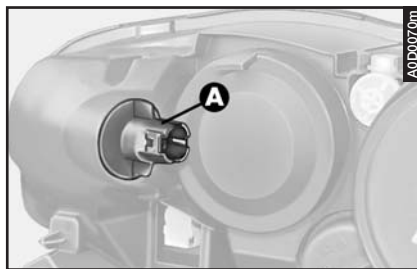

fig. 35
- Turn counter-clockwise and remove the bulb holder (**A- fig. 35**) without disconnecting the connector.